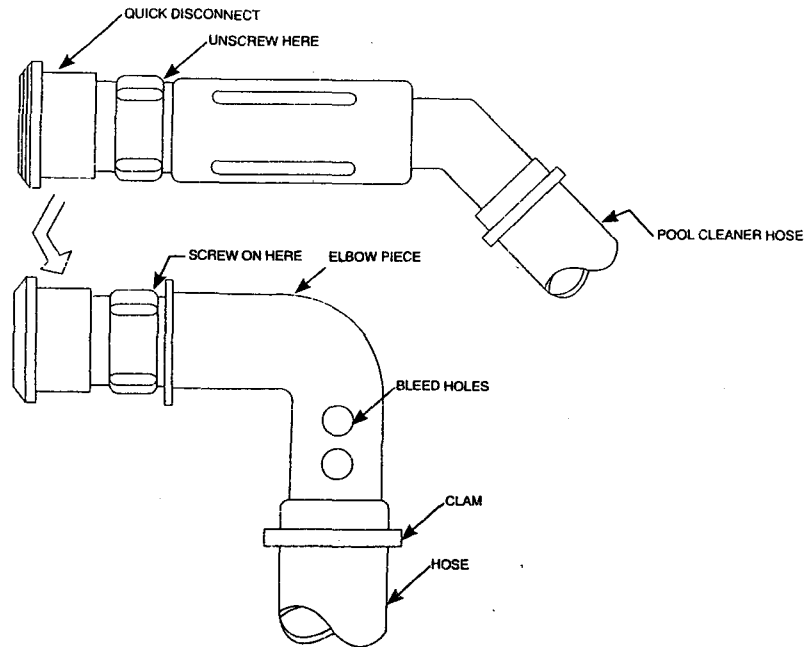

FIGURE 7
- Pool cleaner quick disconnect fittings. Refer to Figure 7. Use installation **instruction 4, page 6** for this type inlet.
2. Unscrew the end of your pool cleaner hose fitting as Indicated in Figure 7. Screw the quick disconnect fitting on to the threaded end of the Elbow Piece(6). Tis is your inlet adapter.
3. Refer to Figure 1. Uncoil the hose (3) and remove all twist. Using clamps(15), clamp one end of the hose to the back side of the fountainhead (1) and the other end to the inlet adapter from step 2. Cover one set of bleed holes with the hose (Fig.7). To tighten clamp, grasp "tabs" between thumb and forefinger and squeeze. Tighten securely with a pair of pliers. To open the clamp, grip one "tab" of the clamp with pliers and twist loose.
4. Using the tie wrap(14), LOOSELY attach the anchor(4) to the hose (3). the anchor(4) should be attached to the hose(3) at a point as deep as the water plus approximately two feet. You will have to estimate what the water depth is where you want the fountain and add two feet **CAUTION: DO NOT CONSTRICT THE HOSE BY TIGHTENING THE TIE WRAP (14) TOO TIGHT.**
6. Place the fountain assembly into the pool. Position the fountain in the desired location being careful not to crimp the hose (3).
Height adjustment is achieved by covering more or less of the bleed holes(Fig.7) on your elbow piece(6) with the hose(3). The more holes covered, the higher the fountain and vice versa.